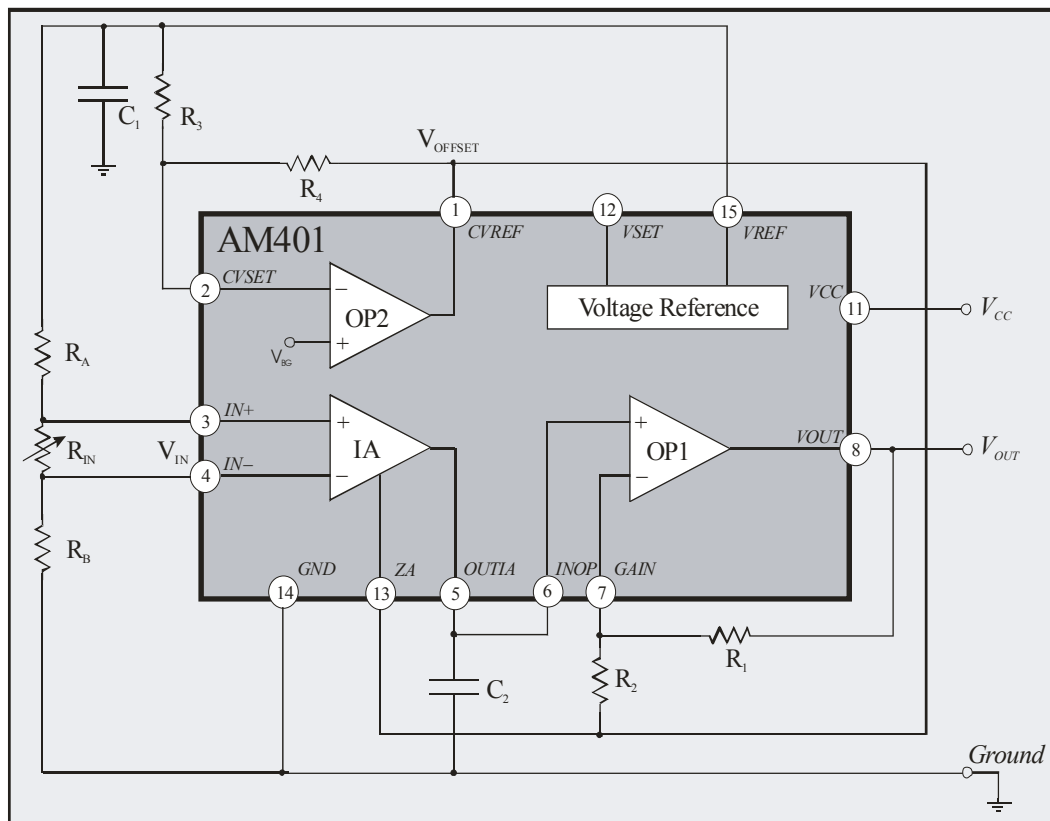

Figure 2: The general functions of AM401
1. The core element of AM401 is its high-precision *instrumentation amplifier* (IA) with an internal gain of G_{IA} and the ability to set the reference potential of the amplifier externally (pin Z_A). The IA acts as an input stage for differential voltage signals.
2. There is also an *operational amplifier stage* (OP1). OP1's gain of G_{OP1} can be set using external resistors R_1 and R_2 (see Figure 2). The operational amplifier output has been designed in such a way that with certain loads it can be set down to zero. In addition, the output stage can drive up to a maximum of 10mA without an external transistor having to be connected. An output current limit has been implemented as a protective feature which guards the IC at the output in the event of a short-circuit.
3. AM401's *voltage reference* permits voltage to be supplied by external components (such as sensors, microprocessors, etc.). The reference voltage V_{REF} has a value of either 5V or 10V. External capacitance C_1 acts as a reference voltage stabilizer. It **must** also be connected when the voltage reference is not in use (see: Figure 2).
In compliance with Figure 2 the transfer function for AM401 when used as an amplifier for differential signals with a voltage output is:
with an offset voltage of V_{ZA} which can be set at pin ZA . With the circuitry shown in Figure 2 and using the additional operational amplifier the offset voltage is determined thus:
The gain of operational amplifier stage OP1 can be set using the suitably selected external resistors R_1 and R_2 . If OP1 is connected up as a non-inverting amplifier (see: Figure2) output voltage V_{OUT} at pin V_{OUT} is calculated as follows: